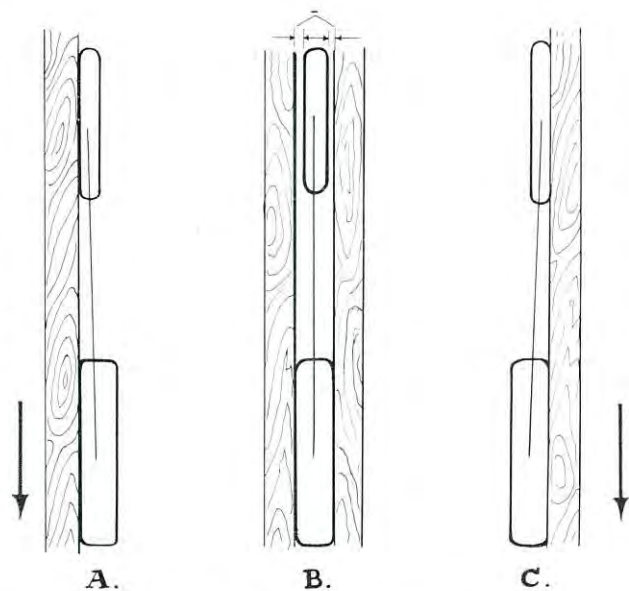

FIG. F13. *Checking alignment.*
If the front tyre is of smaller section then it should be as drawing (B) Fig. F13.